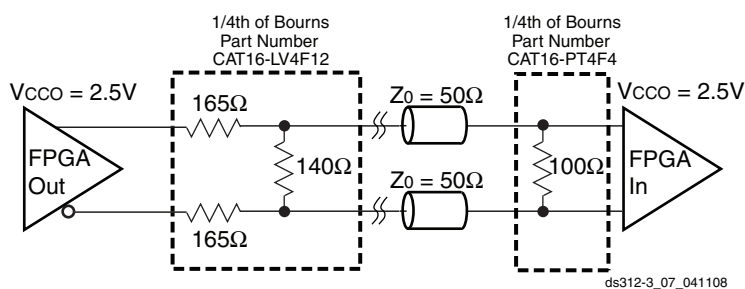

Figure 71: External Termination Resistors for BLVDS Transmitter and BLVDS Receiver
- Output voltage measurements for all differential standards are made with a termination resistor (R_T) of 100 Ω across the N and P pins of the differential signal pair. The exception is for BLVDS, shown in Figure 71.